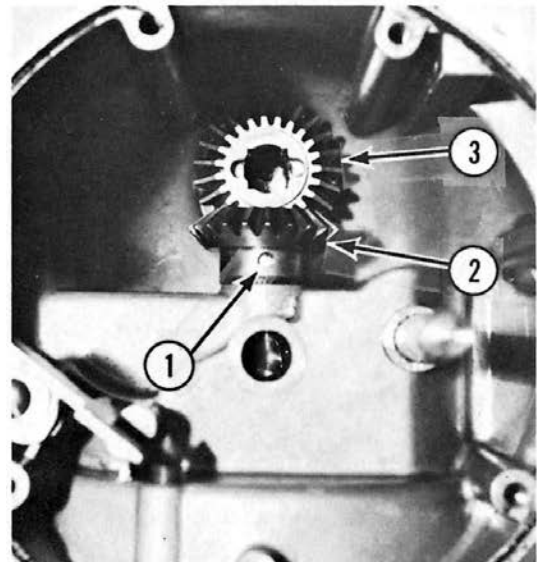

Fig. 3-15
- L. Drive out the taper pin (1, Fig. 3-15) and remove the planetary shaft through the planetary side of the gear case.
- M. Remove the bevel gear (23T) (2, Fig. 3-15) and the fiber washer(s).
- N. Lift out the attachment hub bevel gear (3, Fig. 3-15) and the fiber washer(s).